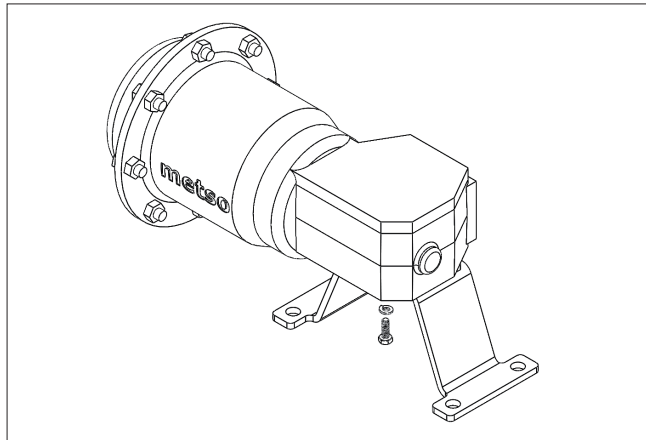

Figure 12.
11. Install new gasket (54), and secure cover plate to valve body using screws (55). To ensure even gasket loading tighten screws, in an alternating sequence to torque in **(Table 3)**.
12. If the handle ratchet plate has been removed from the valve, reinstall it in the orientation shown in **(Figure 12)**. Install lock washers and screws in the two bonnet holes. Do not tighten the screws until the stops are set. (See **SETTING HANDLE STOP** Section or **ACTUATOR MOUNTING INSTRUCTIONS** Section.)
13. Place the compression plate (10) over the shaft (4) and studs (14). Install the nuts (15), but do not tighten.
15. With the valve still closed, tighten the nuts (15) on the compression plate evenly until the shaft seals are adequately compressed to prevent leakage. This should require tightening the nuts approximately 1-1/2 to 2 full turns after they have both come into contact with the compression plate.
If it is necessary to remount the handle 180 degrees from its standard direction (See **Figure 12**).